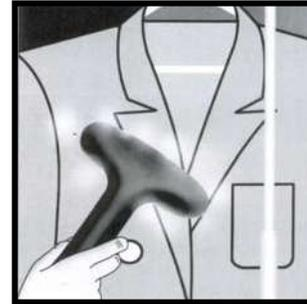

Fig. 10
4. Once steam is being released from the steam diffuser with the garment brush attached, hold the handgrip with the nozzle facing upward and begin steaming from the bottom of the garment allowing the escaping steam to rise inside and out side removing the wrinkles. (See fig. 10)